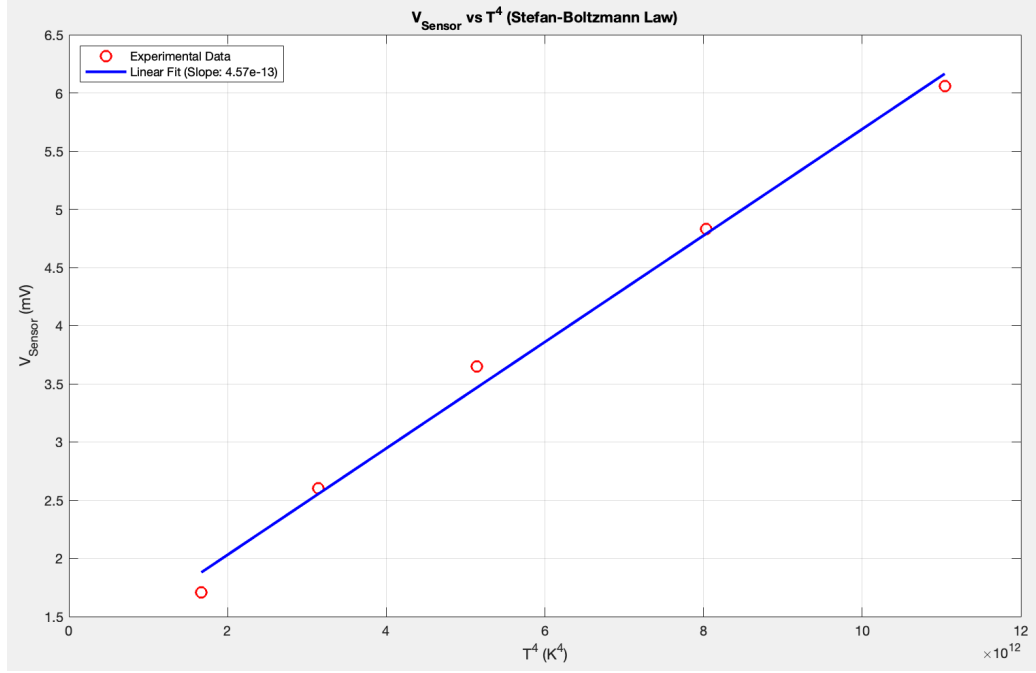

Figure 1:  $V_{Sensor}$  vs  $T^4$
Setup the equipment as shown in Figure 1. The voltage sensor should be connected directly to the binding posts of the Stefan-Boltzmann Lamp. A voltage of up to 8 V DC can be applied to the lamp if the period of supply is limited to a few minutes. Moll-type Thermopile sensor is used to measure the heat radiation. It is an electronic device that converts thermal energy into electrical energy. Before a reading is taken, a proper “zero”-adjustment has to be assured. This is done by taking the lamp together with its slide-mount away from the bench for a few minutes. After the lamp has been put
**Answer:** The radiation intensity is proportional to the fourth power of the absolute temperature ( $T^4$ ). Our experimental data demonstrate a linear relationship in Figure 1, confirming that the filament obeys the Stefan-Boltzmann Law.